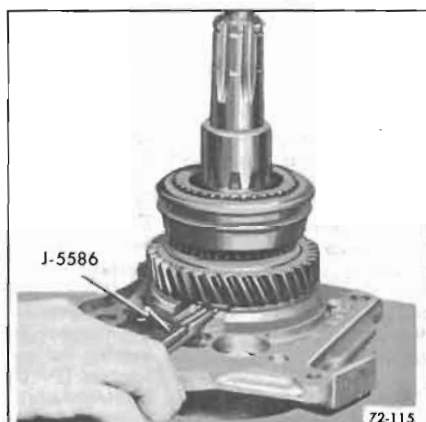

Figure 72-115—Installing Rear Bearing Retainer
12. Install rear bearing retainer. Spread snap ring in the retainer to allow the snap ring to drop around rear bearing. See Figure 72-115. Press on end of mainshaft until the snap ring engages groove in rear bearing.